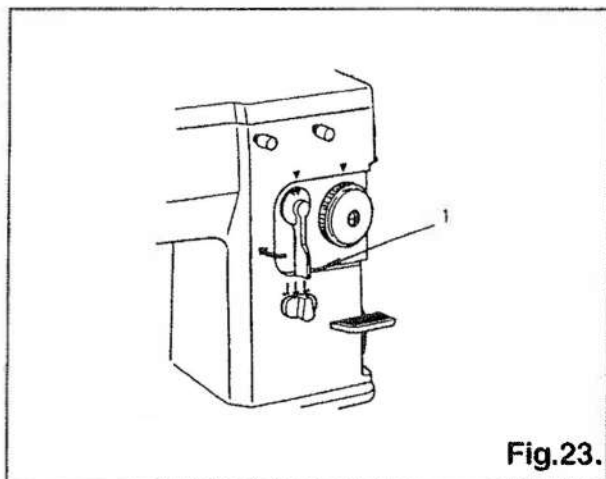

Fig.23.
The width of zigzag stitch is controlled with the spring biased stitch width regulating lever (1), Fig.23.